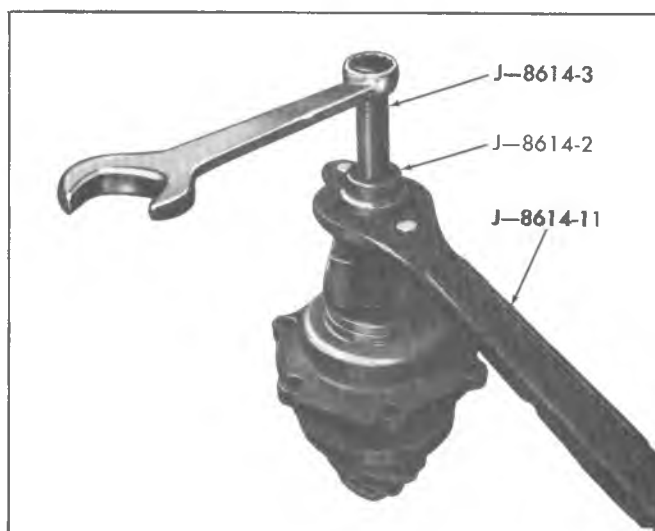

Fig. 9E—Removing Flange
4. Thread end of J-8614-3 into small O.D. end of J-8614-2. Then with J-8614-11 installed as in step 2, insert J-8614-2 into J-8614-11 and turn it 1/8 of a turn to locked position. Remove flange by turning J-8614-3 while holding J-8614-11 as shown in figure 9E.